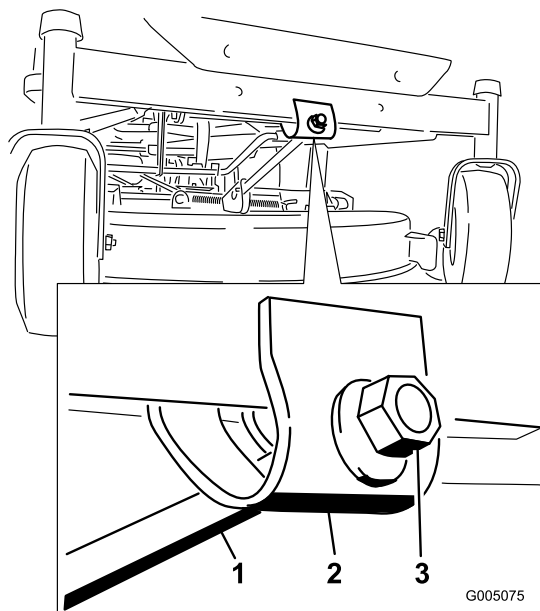

Figure 44
- To adjust the front-to-rear blade slope, rotate the adjustment nut in the front of the mower (Figure 44).